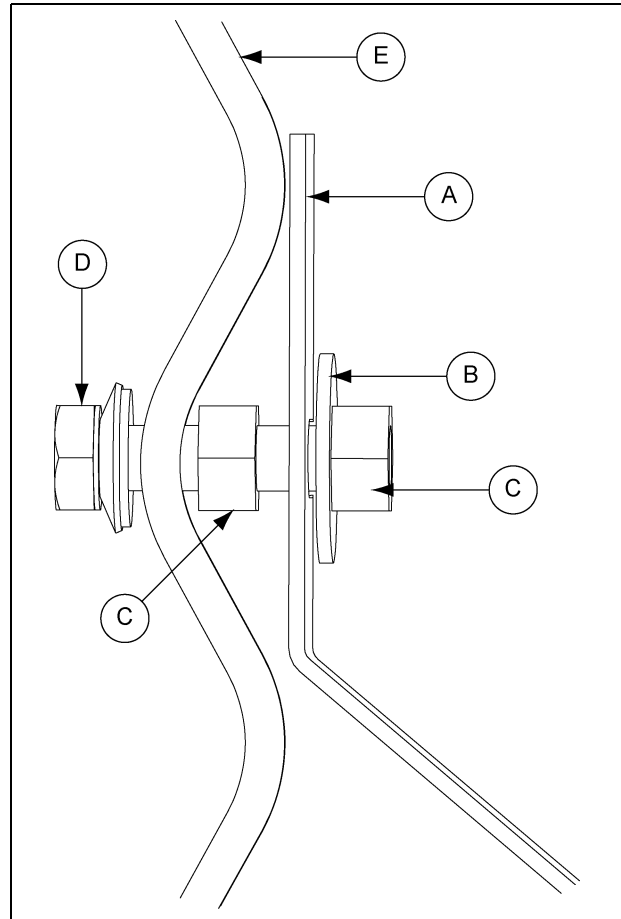
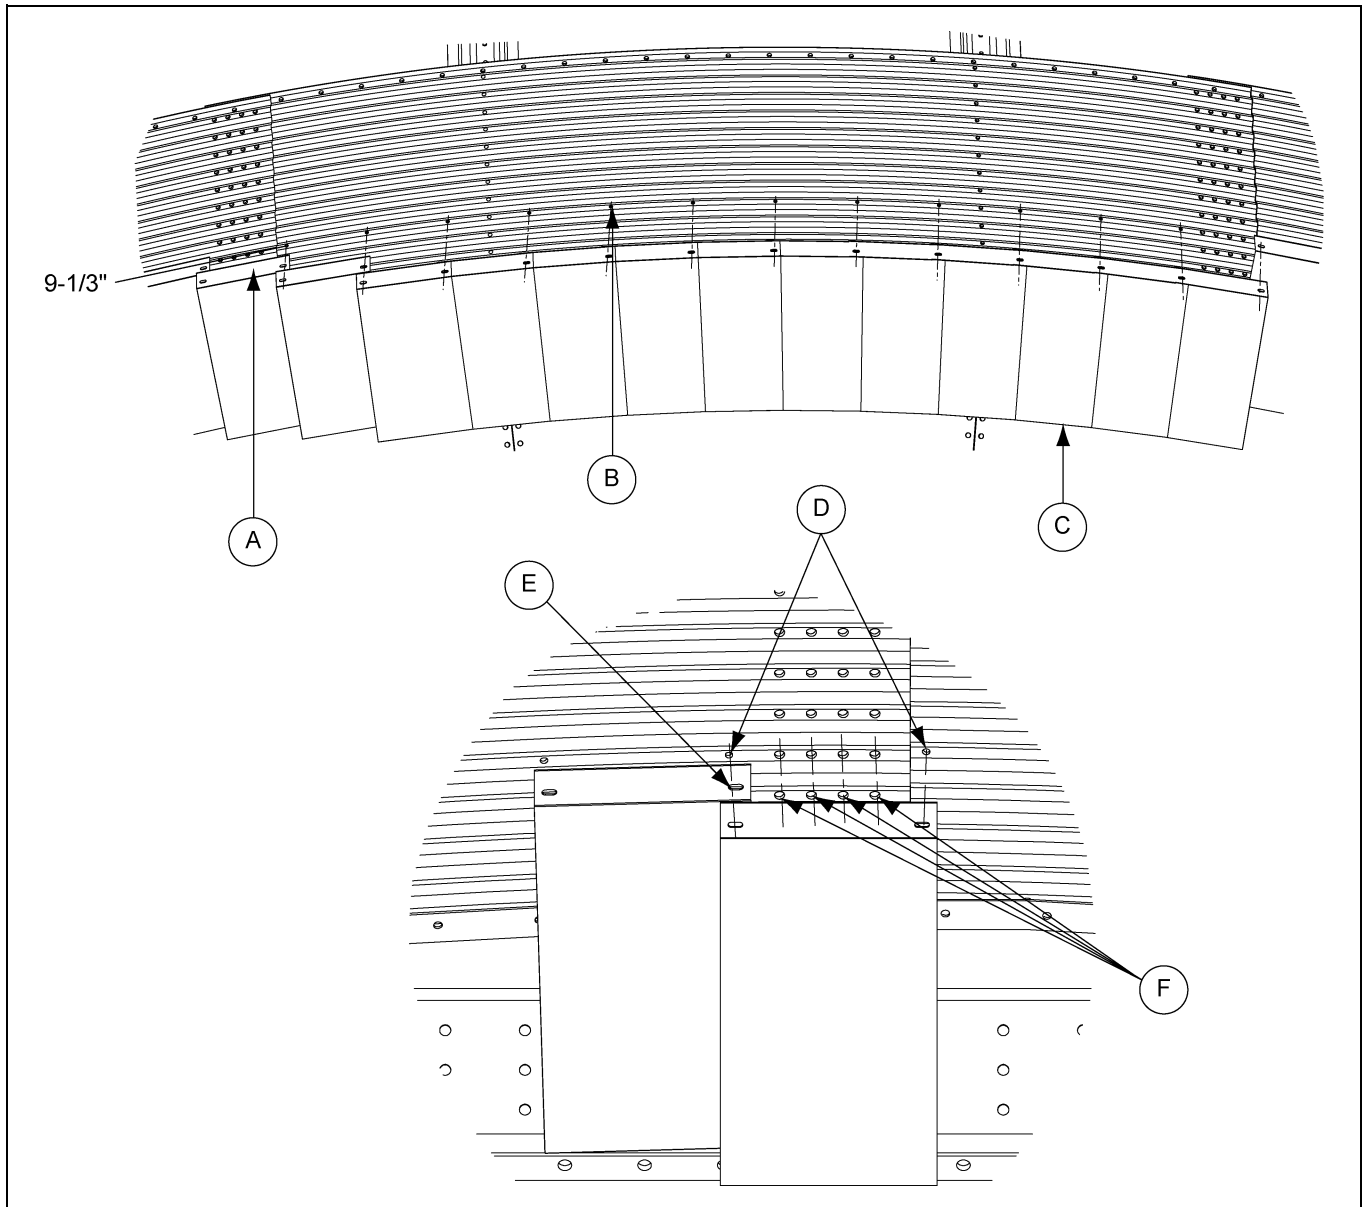

Figure 19B Vertical Seam Flashing Hardware
Figure 19C
3. At vertical seams attach flashing that is to span the vertical seams using both left and right holes. Drill flashing holes from the outside of the bin through the sidewall sheet holes. Remove drilled flashing and assemble vertical seam bolts and nuts. (See Figure 19C on Page 67.) Replace drilled flashing and attach according to Figure 19B. Continue around the bin clockwise.